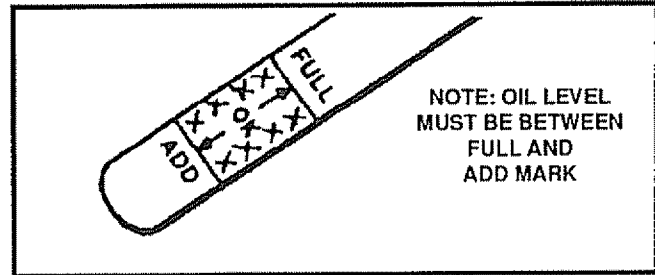

FIG. 19
Check the crankcase oil level (See Fig. 19) before starting the engine and after each five (5) hours of continuous use. Add S.A.E. 5W-30 motor oil as needed. Tighten fill cap/dipstick securely each time you check the oil level.